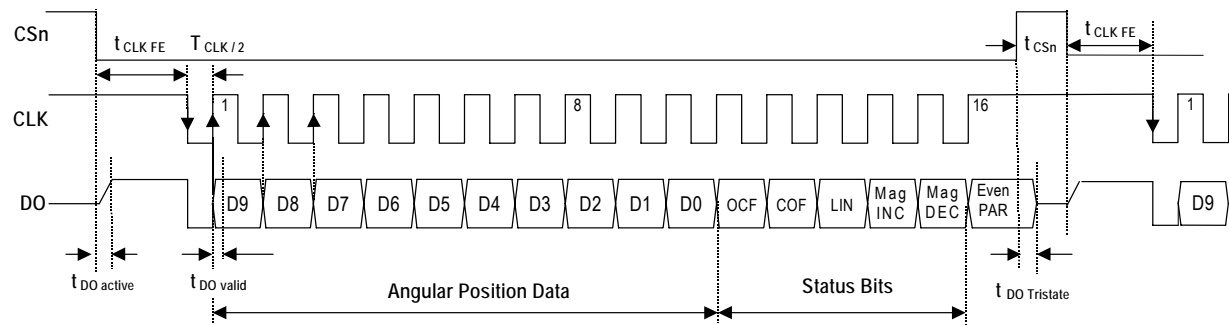

Figure 5: Synchronous serial interface with absolute angular position data
The serial data transmission timing is outlined in Figure 5: if CSn changes to logic low, Data Out (DO) will change from high impedance (tri-state) to logic high and the read-out sequence will be initiated.